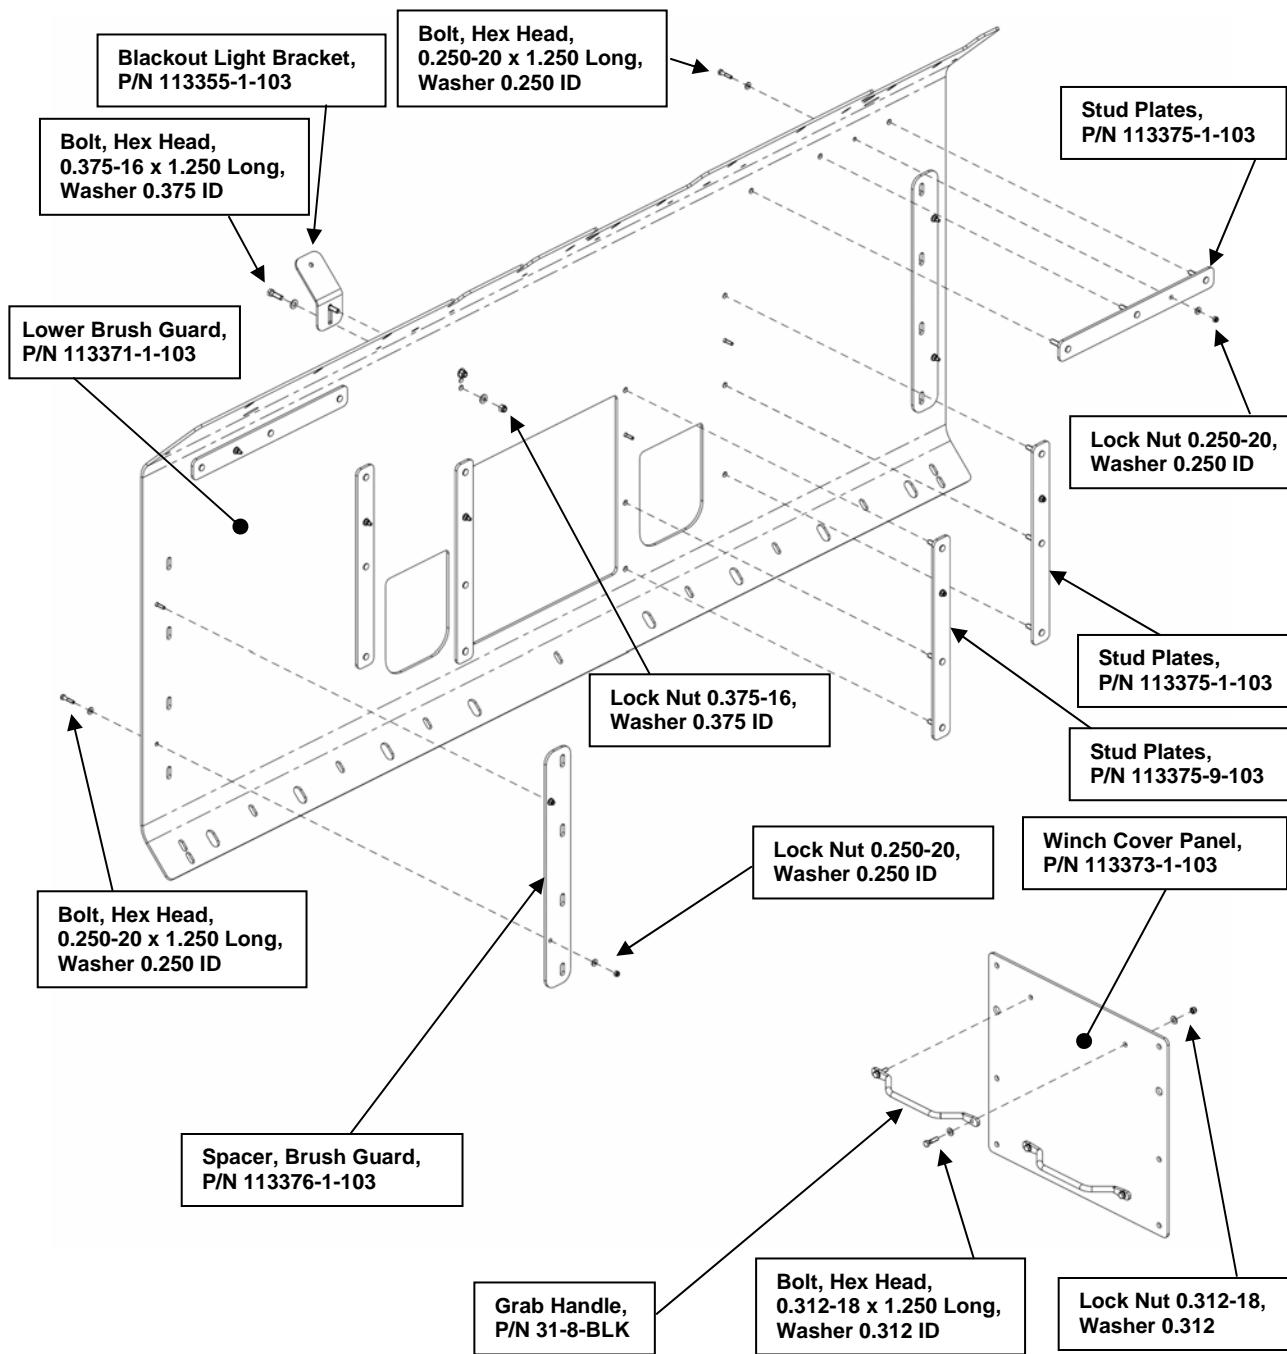

Figure 47. Lower Brush Guard and Winch Cover.
- Install the six Stud Plates to the Lower Brush Guard (P/N 113337-1-103) using the hardware shown in Figure 47.
- Install the Blackout Light Bracket (P/N 113355-1-103) using the hardware shown in Figure 47.
- Install the Brush Guard Spacer (P/N 113376-1-103) using the hardware shown in Figure 47.
- Install the two Grab Handles (31-8-BLK) to the Winch Cover Panel (P/N 113373-1-103) using the hardware shown in Figure 47.